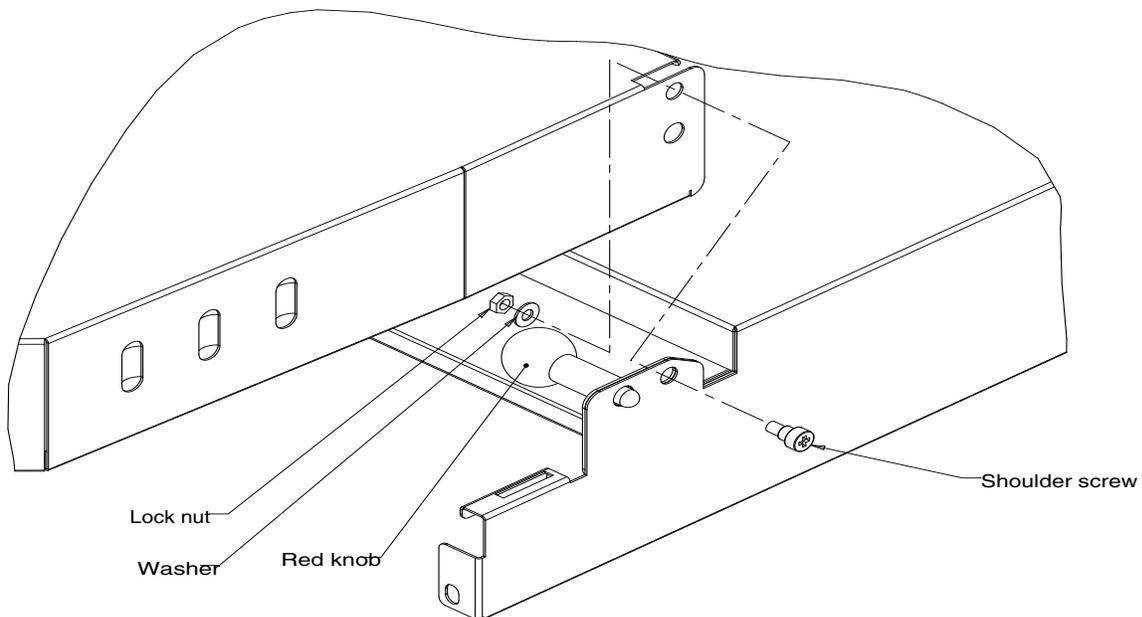

FIGURE 5.
14. Secure the manual fill cover to the adapter lid with the two shoulder screws, washers, and locknuts (see Figure 5). Check for proper operation of the manual fill cover by opening and closing the cover. The cover latch should engage in the fully open positions and hold the cover open. Pull the red knob on the latch to release the cover.